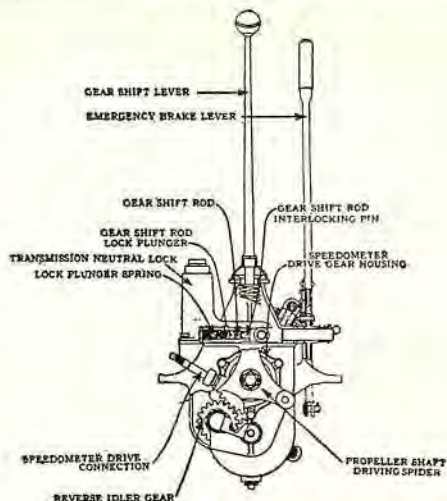

Fig. 40. Studebaker Light "six" transmission; rear view.
There are two types of gear-shifting shaft plungers or locks: (1) those placed on the top (31, page 858); (2) those placed on the side (Fig. 40, pg. 857). A notch is cut in the gear-shift rod or shaft (23, page 858) and a plunger and spring engages in the notch. On some transmissions a steel ball is forced into the notch by a spring, the purpose being to hold the gear-shift rod rigid so that gears will not move out of mesh after being shifted. The spring can be replaced if the gears fail to stay in mesh.
Neutral lock: The transmission is equipped with a neutral lock mounted in a hand-control base plate, and, when locked, it holds the sliding gears in neutral position (Fig. 40).